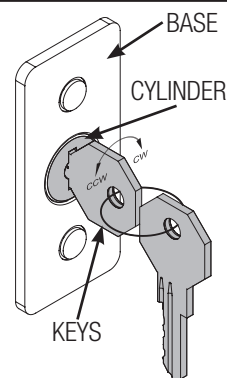
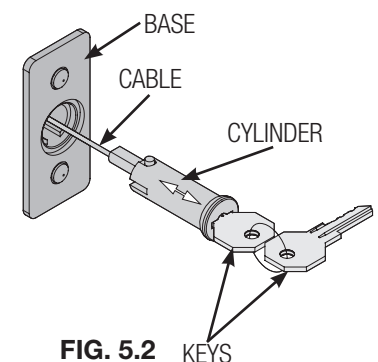

FIG. 5.1
FIG. 5.2
1. Insert key into cylinder and turn counter clockwise, as shown in **FIG. 5.1**. Pull cylinder out of the base, as shown in **FIG. 5.2**.
3. Replace cylinder into base, as shown in **FIG. 5.2** and turn key clockwise, as shown in **FIG. 5.1**. Remove key.